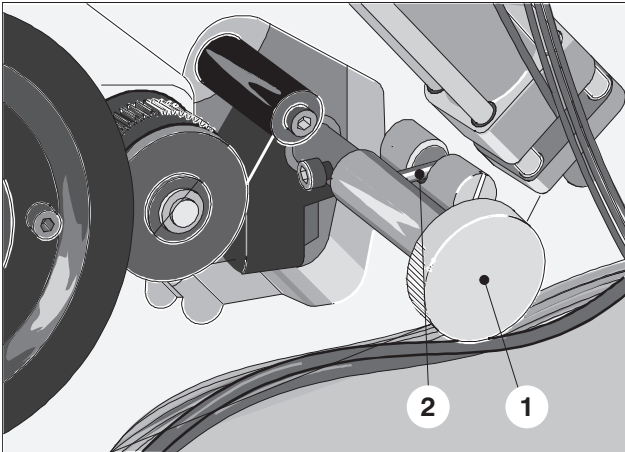

Fig. 27 Removing the blanket washup device
2. Turn the handle (Fig. 27/1) counterclockwise to release the interlock mechanism (Fig. 27/2) of the blanket washup device.
3. Pull the blanket washup device out of the side frame by the handle (Fig. 27/1).